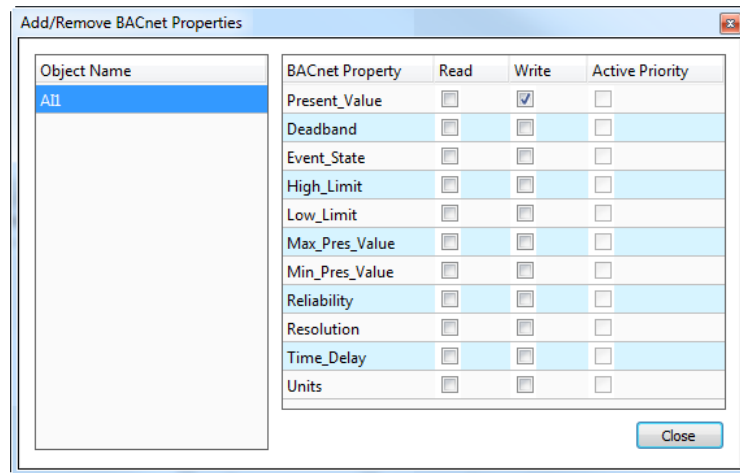

Figure 155: Dialog for adding/removing BACnet properties.
2. Right-click on the data point and select **Add/Remove BACnet properties ...** from the context menu. The dialog appears as shown in Figure 155.